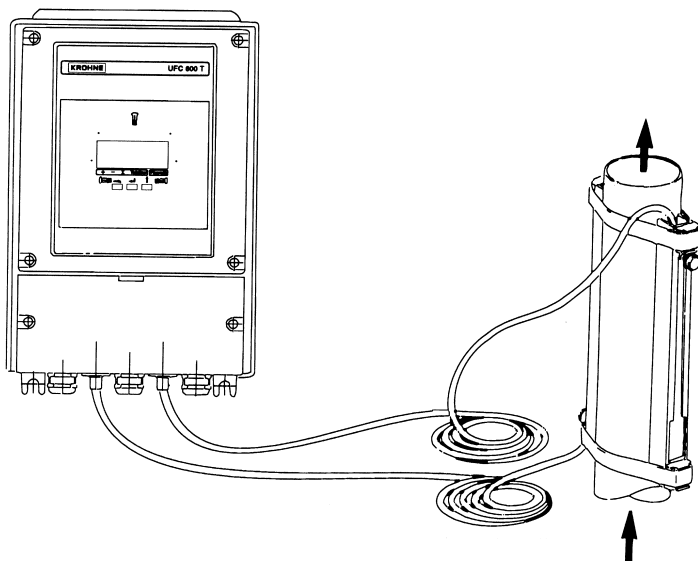

Fig. B.5 : Transducers, signal converter and auxillary items
B.5 Transducers and Mountings (see Fig. B.5)